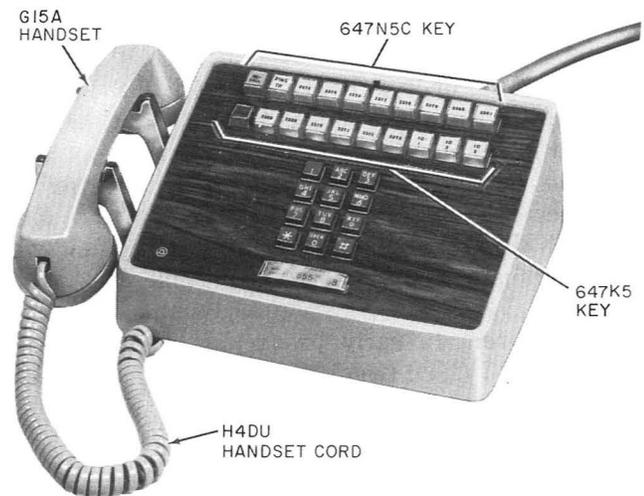
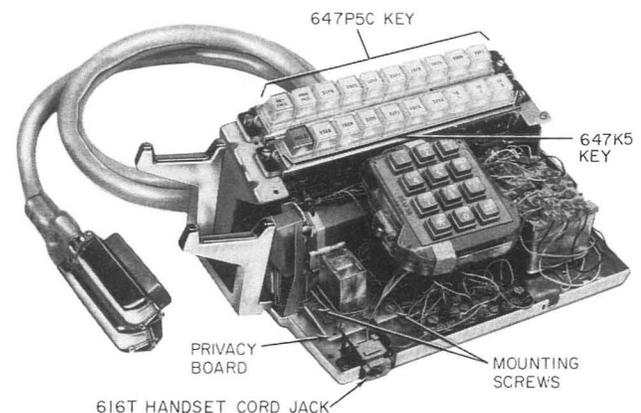

Fig. 1—2833CM Telephone Set
Fig. 2—2833BM Telephone Set Base
2.01 The 833BM, 2833BM, 833CM, and 2833CM (Fig. 1) are modular type telephone sets and will replace the 833B, 2833B, 833C, and 2833C telephone sets, respectively, which are hereby rated MD. The 833DM, 2833DM, 833EM, and 2833EM are also modular sets and are electrically and functionally equivalent to the 833BM, 2833BM, 833CM, and 2833CM sets, respectively, except that they have been adapted for wall mounting. The modular sets are equipped with a G15A-50 handset and H4DU-50 handset cord which plugs into a 616T jack mounted on the left front of the telephone set base (Fig. 2). Current production models of these sets also are equipped with an improved line switch and an automatic button restoral (ABR) feature. Some early production BM and CM sets were not so equipped.
equipped with a 647K5 key in the lower key position consisting of a hold button, six line buttons, and three intercom buttons. A 647P5C key is located in the upper key position consisting of a RECALL button, a Privacy Release (PRIV RLS) button, and eight line buttons. The privacy circuit board is factory installed and wired (Fig. 2).